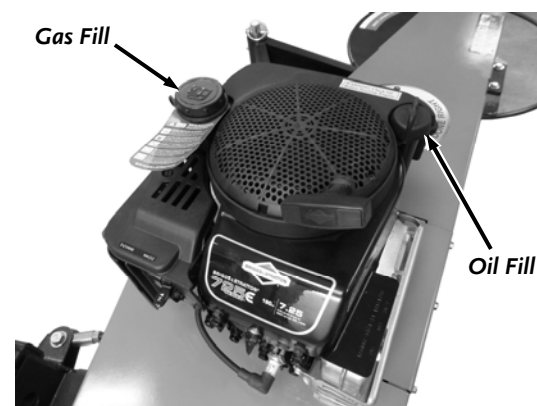

Figure 8
2. Initially add 1/2 of the SAE 30 High Detergent oil into the Oil Fill (**Figure 8**) and wait one minute for the oil to settle.